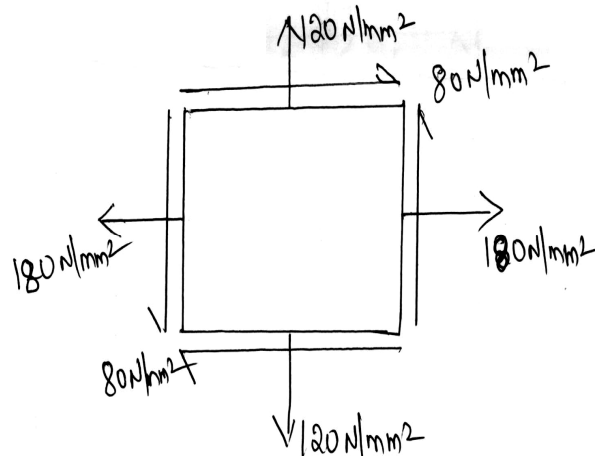

Fig. Q3(b)
- b. The state of stress at a point in a strained material is shown in Fig. Q3(b). Determine the principle stresses, principle planes, Maximum shear stress and shear planes.